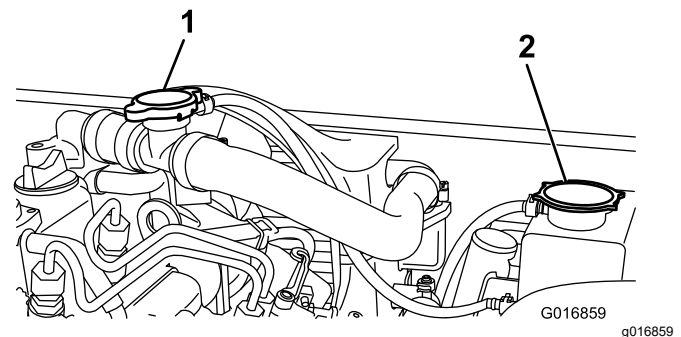

Figure 49
2. Remove the radiator-overflow tank cap (Figure 49).
2. Remove the fill cap (Figure 49) and fill with coolant.
3. Replace the fill cap and remove the radiator-overflow tank cap (Figure 49).